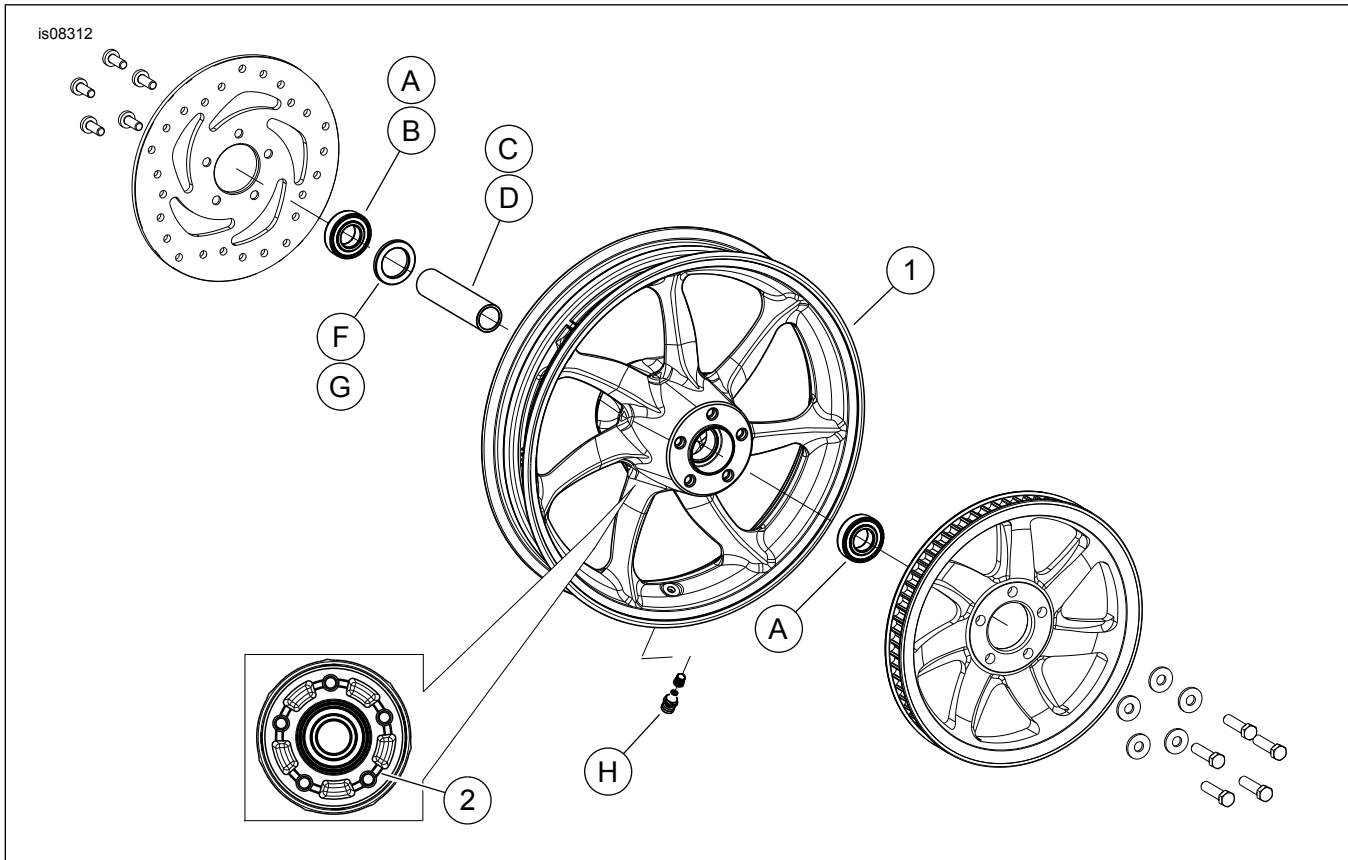

Figure 1. Service Parts: Rear Machete Wheels (16-inch Shown)
See Figure 1. and Table 2.
2. See Figure 1. Install valve stem assembly (H) on wheel. Refer to TIRES in service manual.